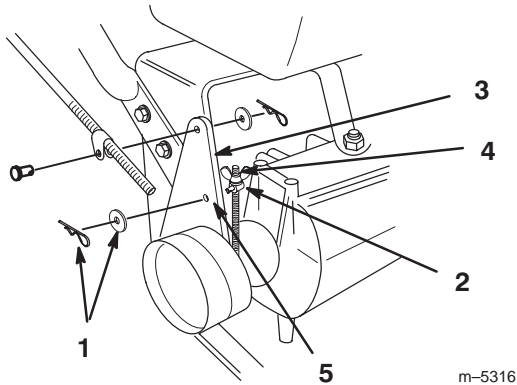

Figure 39
3. To adjust the brake remove the cotter pin and washer from the brake lever (Fig. 39).
4. Rotate the trunnion so it smoothly slides into brake lever hole F (Fig. 39). Tighten wing nut.
5. Secure trunnion to brake lever with washer and cotter pin (Fig. 39).